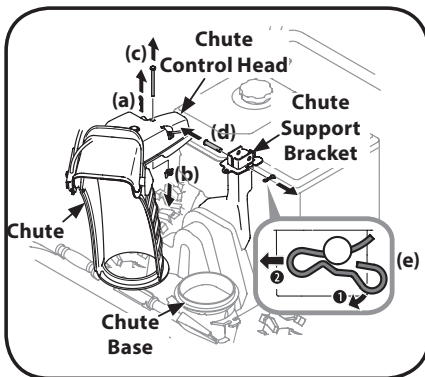

Figure 2-23
1. Remove hairpin clip (a), wing nut (b) and hex screw (c) from chute control head and clevis pin (d) and bow-tie cotter pin (e) from chute support bracket. See Figure 2-23.